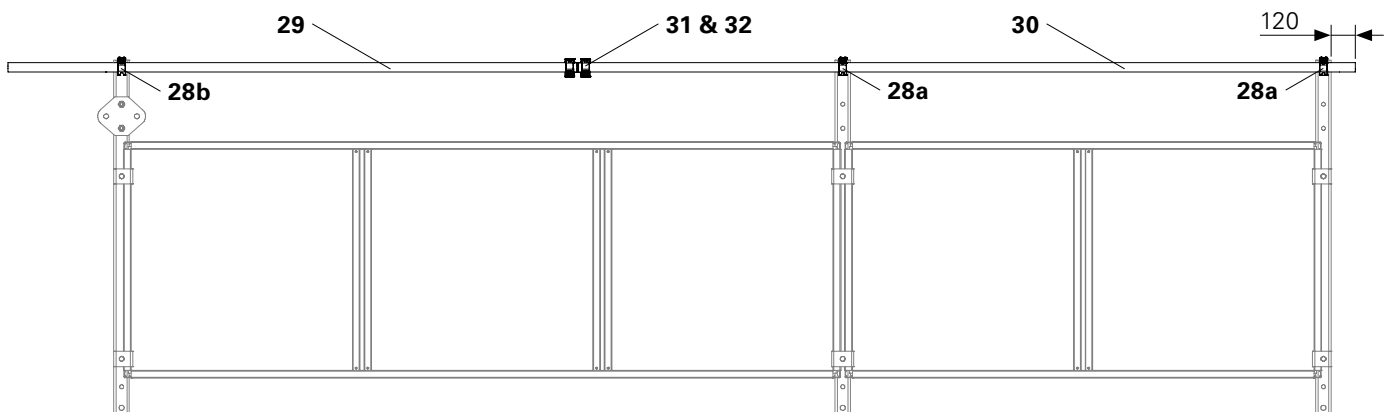

Fig. B4.06
1. Attach 1x Scaffold Tube Steel  $\text{\O} 48.3 \times 3.2$ ,  $l = 4.0 \text{ m}$  (30) to the Screw-On Coupling AK 48 (28a).
2. Insert Tube Connector  $\text{\O} 48.3 \text{ mm}$  (32) in the Scaffold Tube Steel  $\text{\O} 48.3 \times 3.2$ ,  $l = 4.0 \text{ m}$  (30).
3. Insert Scaffold Tube Steel  $\text{\O} 48.3 \times 3.2$ ,  $l = 3.0 \text{ m}$  (29) in the Tube Connector  $\text{\O} 48.3 \text{ mm}$  (32).
5. Attach Scaffold Tube Steel  $\text{\O} 48.3 \times 3.2$ ,  $l = 3.0 \text{ m}$  (29) to the Screw-On Coupling AK 48 (28b) on the building side. (Fig. B4.06)